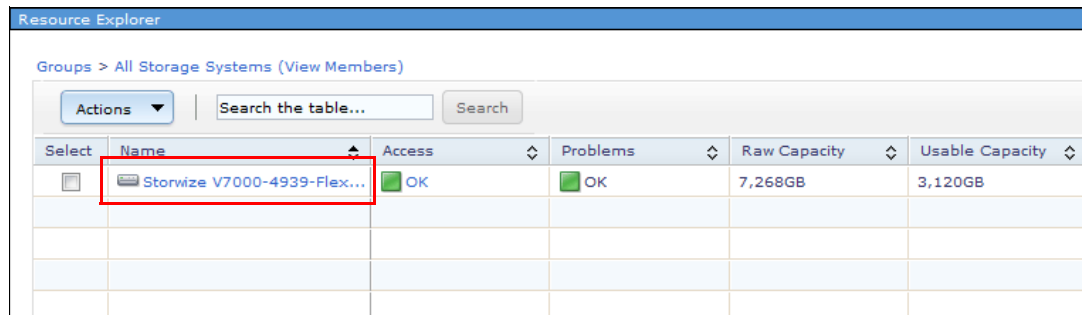

Figure 3-92 Selecting target storage
- Select target storage (e.g. IBM Storwize V7000), as shown in Figure 3-92 on page 146.